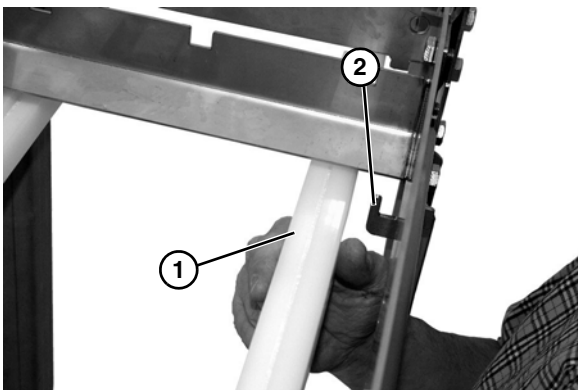

Figure 16
2. Install belt return (**Figure 16, item 1**) onto mounting bracket (**Figure 16, item 2**).